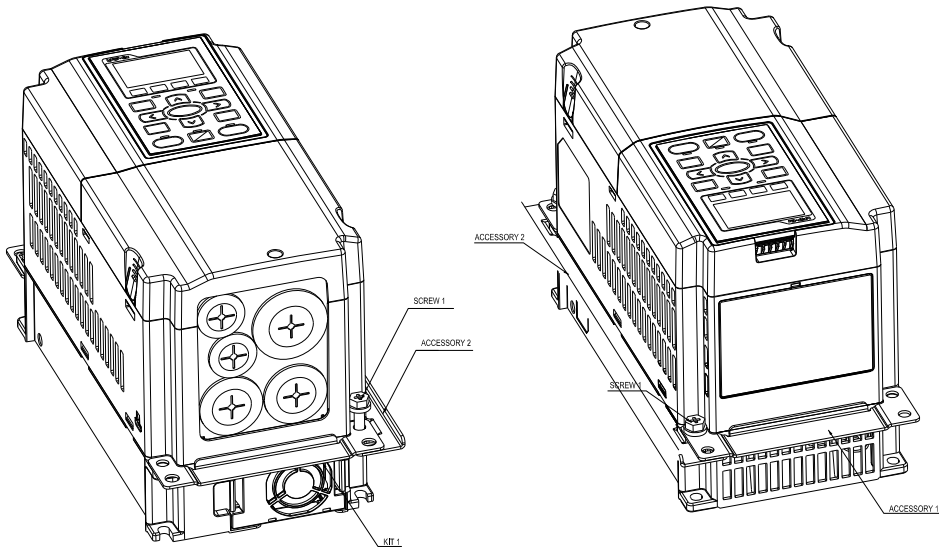

Figure 1
1. Fasten screw\*2(M6) and accessory 2 &3. Screw torque: 25~30kg-cm (21.7~26lb-in). (figure 1)